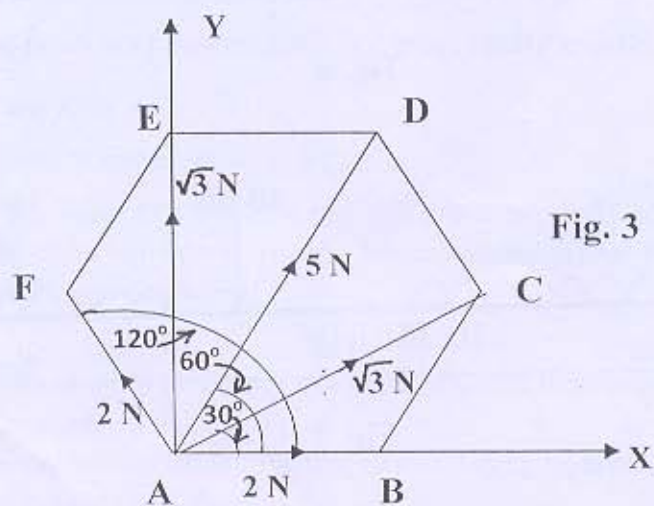

Fig. 3
- (i) Find resultant of forces shown in Fig. 3.